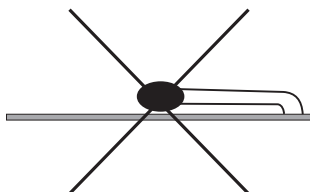

Fig. 5 Incorrect location of the thermistor in a transmitter
3. Check the position of the thermistor. Make it straight if bent (see Fig. 5).